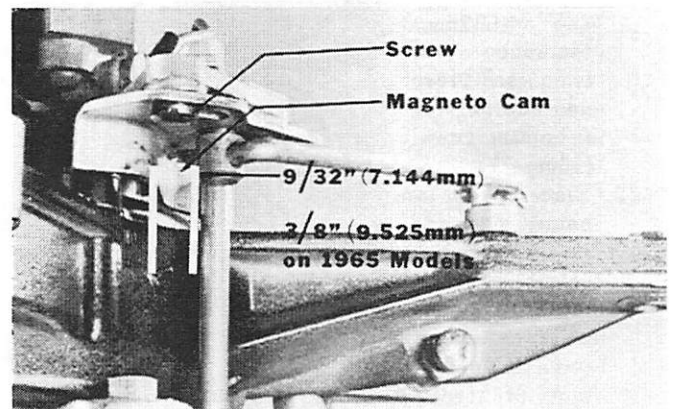

Figure 3. Magneto Cam Adjustment
1. Clearance between magneto cam and swivel link should be $9/32''$ (7.144mm). (Clearance is $3/8''$ [9.525mm] on 1965 model.) Readjust, if necessary, by loosening 2 screws and moving magneto cam in slots. Tighten screws securely. (Figure 3)